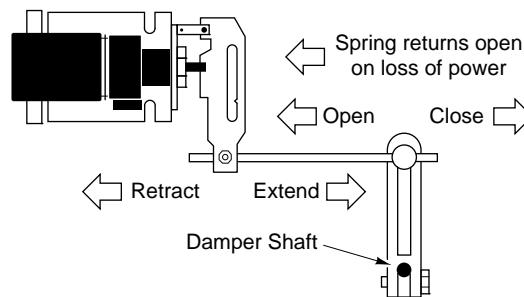
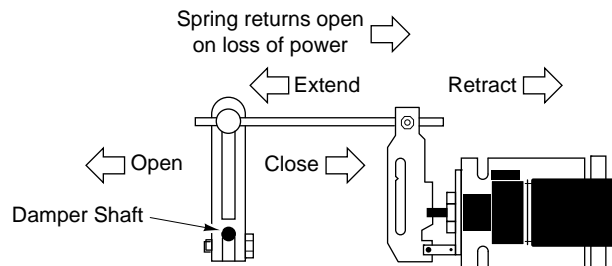

Figure-12 Dampers Open When Actuator Retracts (Spring>Returns Open on Power Loss).
Figure-13 Dampers Open When Actuator Extends (Spring>Returns Closed on Power Loss).
- a. Determine, from the system requirements, if the damper should spring-return to the open position (refer to Figure-12) or closed position (refer to Figure-13) whenever power is lost to the actuator. For example, an outside air damper actuator is typically linked so as to retract (spring-return) to the damper's fully closed position (safe position).